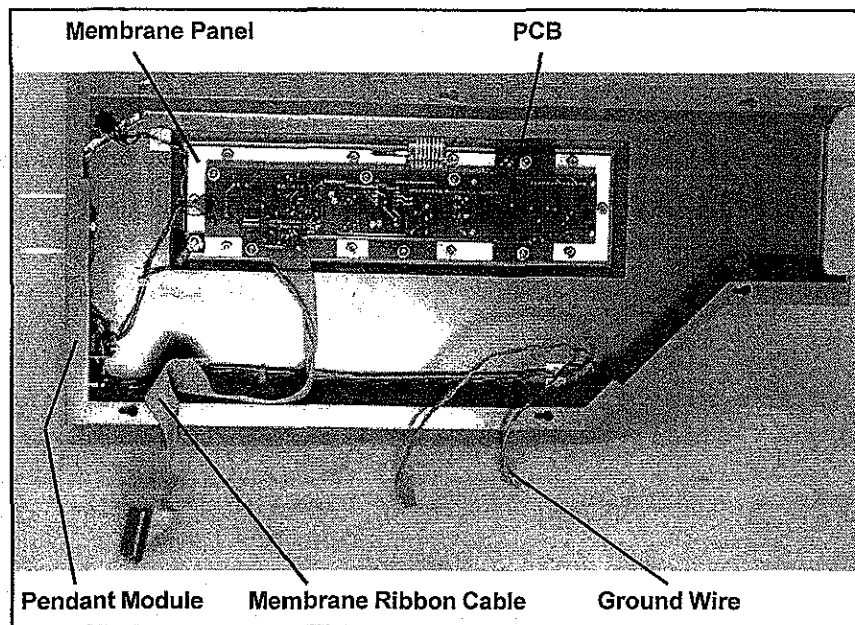
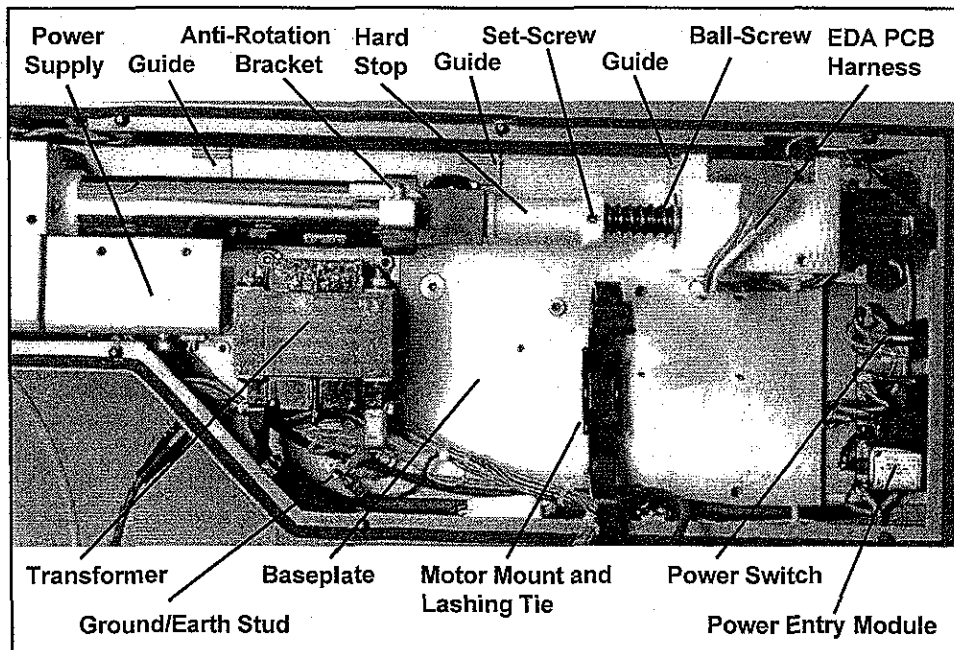

Figure 4-1b: Inside Injector Head's Front Enclosure
Figure 4-1c: Inside the Injector Head
Refer to Figures 4-1b, 4-1c, and 4-2a and 4-2b.
7. Gently remove the ribbon connector (ribbon cable from the front enclosure to the main PCB—see Figure 4-1b) from the main PCB. Squeeze the locking tabs on each side of the connector while removing.
8. Remove the plug connector for the **green** and **red** wires from the main PCB (see Figure 4-1b). Carefully pull down and out.
9. Refer to Figure 4-1c and locate the Ground/Earth stud beneath the transformer. Use the 11/32" nut driver to remove the hex nut and washers. Disconnect the front enclosure's ground wire—**green with yellow stripe**—from the Ground/Earth stud (see Figure 4-1b).
6. Insert the 5/64" balldriver into the set-screw of the Hard Stop (see Figure 4-1c). Loosen the set-screw by turning it one or two times counter-clockwise.
1. Locate the three (3) PCB guides on the baseplate inside the Injector. The PCB must be fully inserted into these guides. Refer to Figure 4-1c.
6. Make certain that the top of the PCB is clean of any foreign particles, and place the clear insulating cover on top of the PCB. The five (5) holes on the insulator must line up with the holes on the PCB to receive button-head screws A, B, C, D, E, and F.